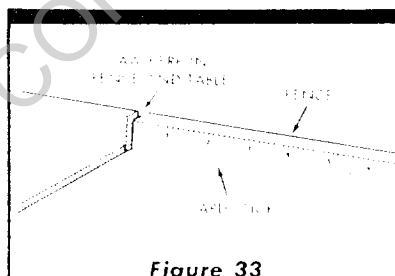

Figure 33
4. A scale may be attached to the fence to aid the operator when measuring lengths during cross-cut operations. This is accomplished by tacking a yard stick to the fence as shown. (See figure 33.)